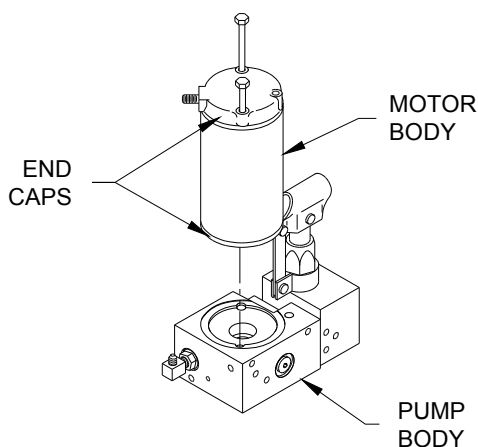

FIGURE 4-45: PUMP MOTOR ORIENTATION
- 3) Refer to **Figure 4-45**. Disconnect heavy electrical connection to pump.
- 2) Refer to **Figure 4-45**. Locate pump motor assembly on pump body (hold motor assembly together).